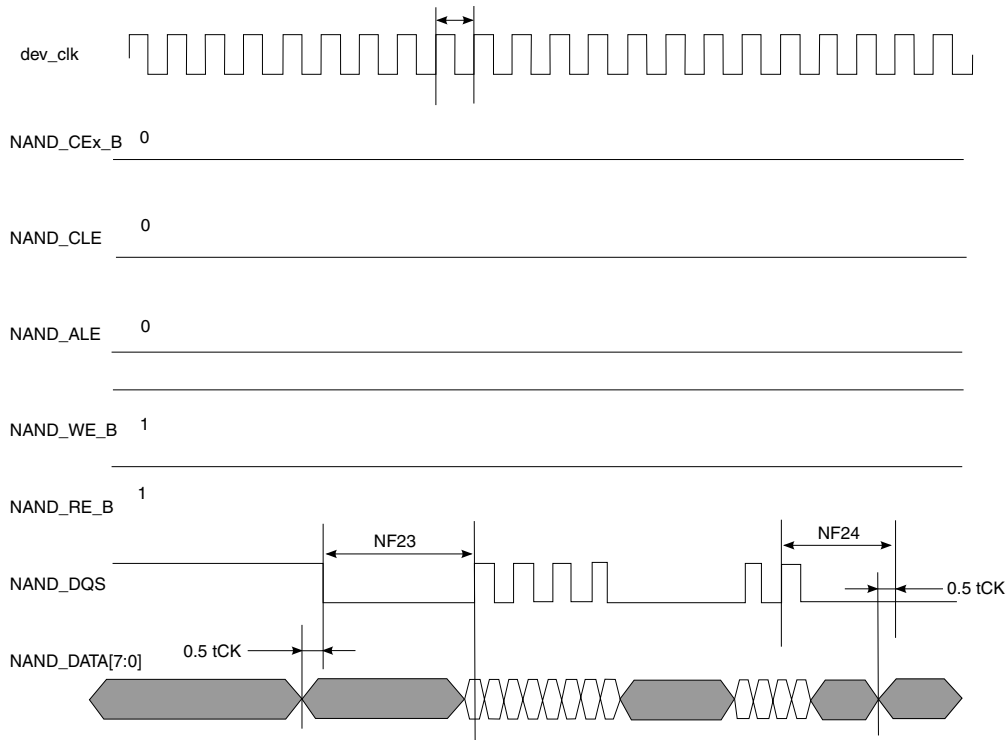

Figure 40. Samsung Toggle Mode Data Write Timing
- ⁶ Shown in Figure 40, Samsung Toggle Mode Data Write Timing diagram.